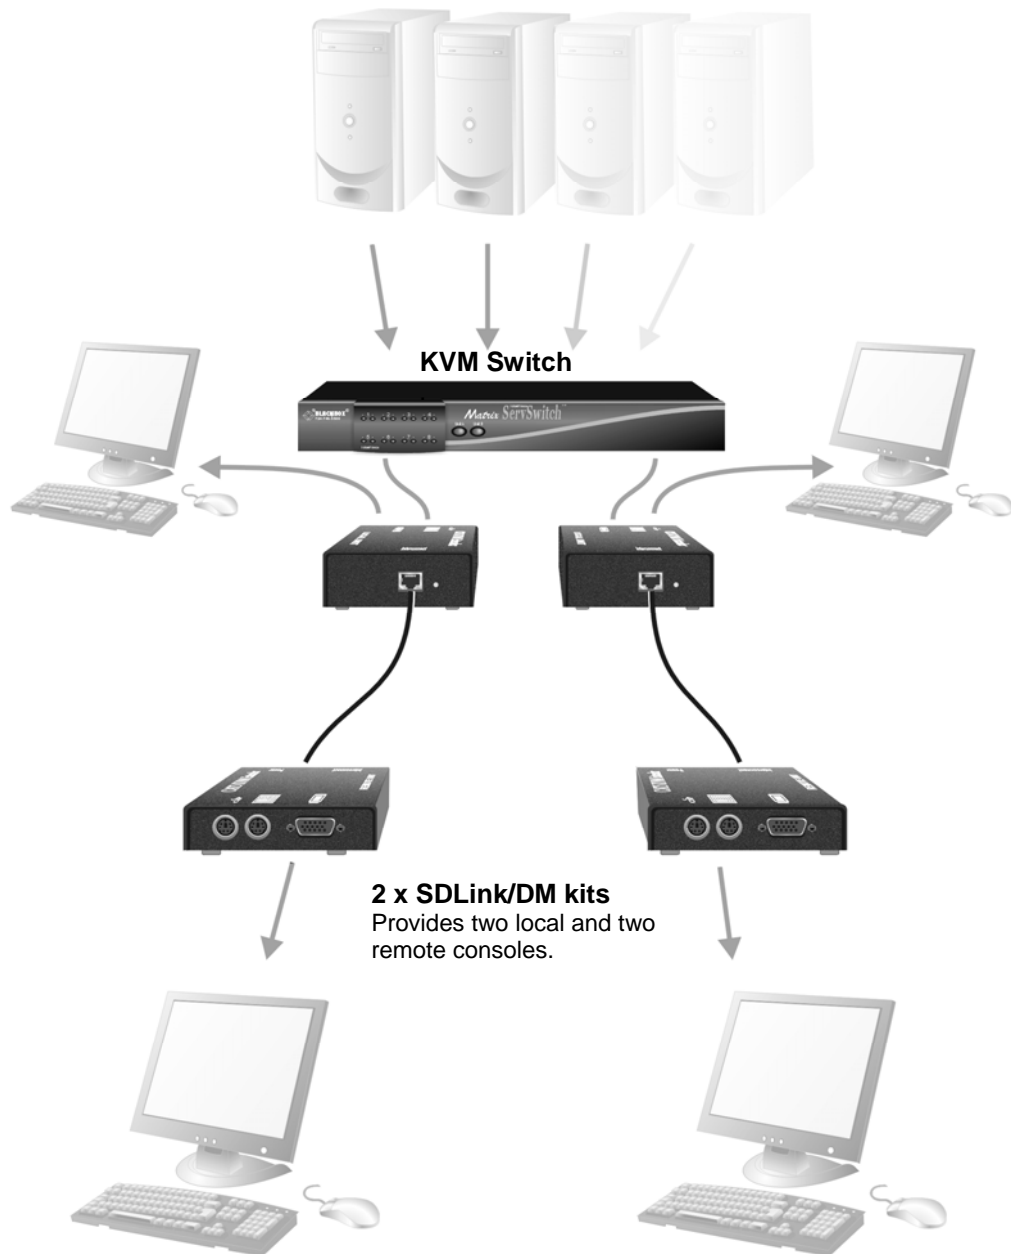

Figure 11 Extender integration with KVM matrix
- Integration of two SDLink/DM kits with KVM matrix (Figure 11).